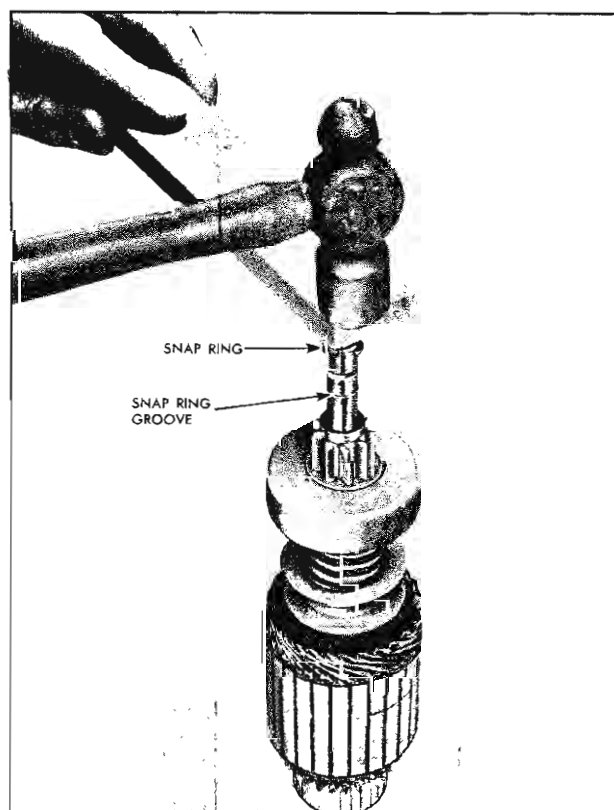

Fig. 11-11 Forcing Snap Ring onto Armature Shaft
d. Stand armature on end on wood surface with commutator down. Position snap ring on upper end of shaft and hold in place with a block of wood. Hit wood block a blow with hammer forcing snap ring over end of shaft. Slide snap ring past the grease groove to the snap ring groove (Fig. 11-11).